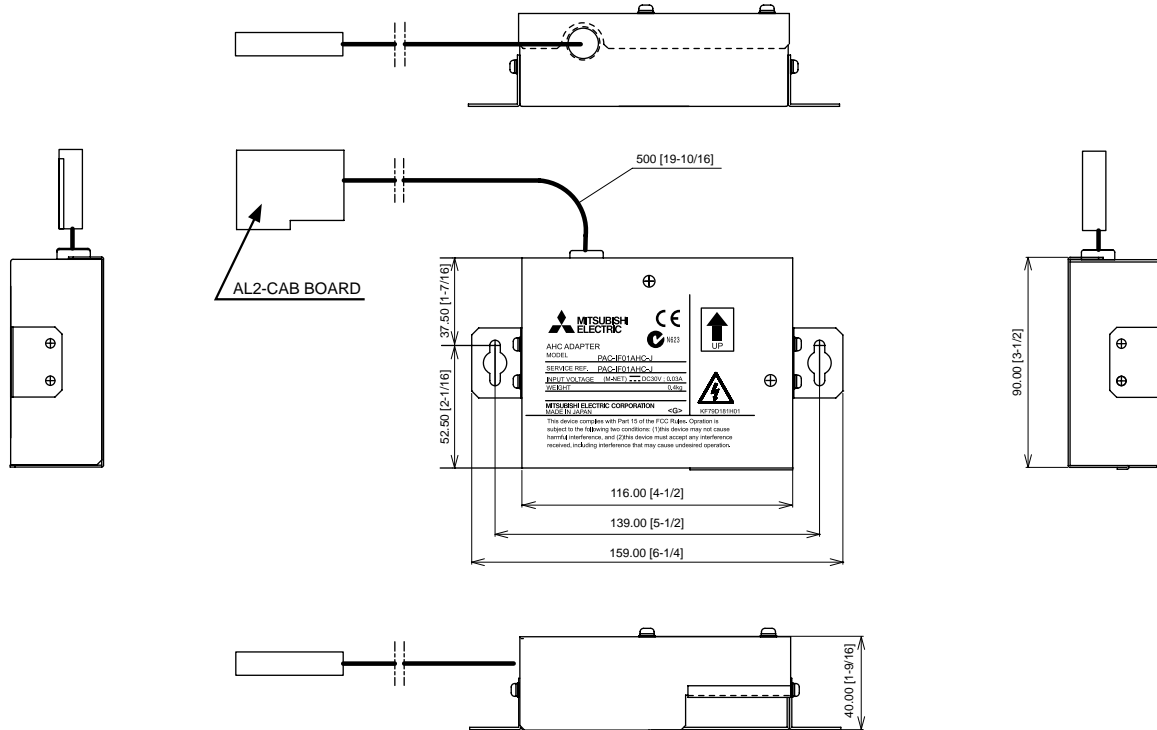

Fig. 5-1
- Leave the AL2-CAB BOARD (Fig. 5-1) wrapped in bubble wrap until after AHC ADAPTER has been installed in the metal control box.